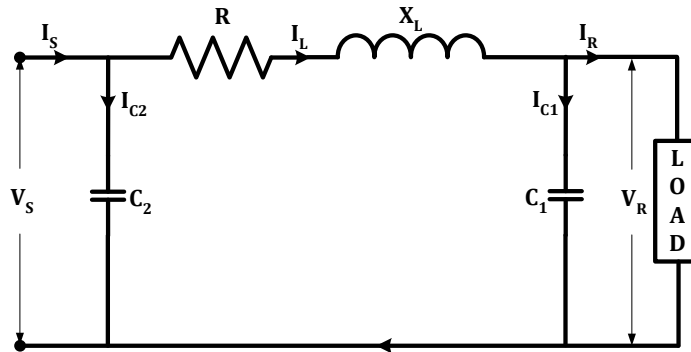

Figure 1.10 Circuit of Nominal π Method
- In this method, the line to neutral capacitance is divided into two halves; one half being concentrated at load end and other half at the sending end as shown in fig. 1.10.